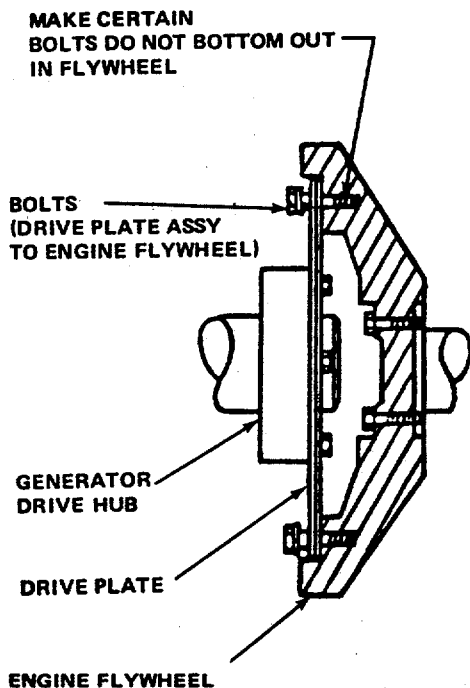

Figure 11-18. Drive Plate Assembly and Engine Flywheel Housing
- (a) Remove cover (63) and cover (67) by removing screws (64), washer (66), and nut (65).
- (b) Remove screws attaching drive plate assembly to engine flywheel. (See figure 11-18.)
- (c) Loosen setscrew (60) in coupling hub (61).
- (d) Push drive plate assembly as far as possible towards the generator fan, in order to gain access to the hub screws (57).
- (e) Remove screws (57) by straightening locking plate (58). Remove drive plate assembly.
- (2) Replacement. Install drive plate assembly as follows:
- (a) Locate drive plate assembly onto hub (61)
- (b) Push drive plate assembly (with coupling hub attached) toward engine flywheel. Align holes and install bolts. Tighten and torque to 112 footpounds (157 joules) when dry. (See figure 11-18.)
- (c) Tighten setscrew (60) on coupling hub (61).